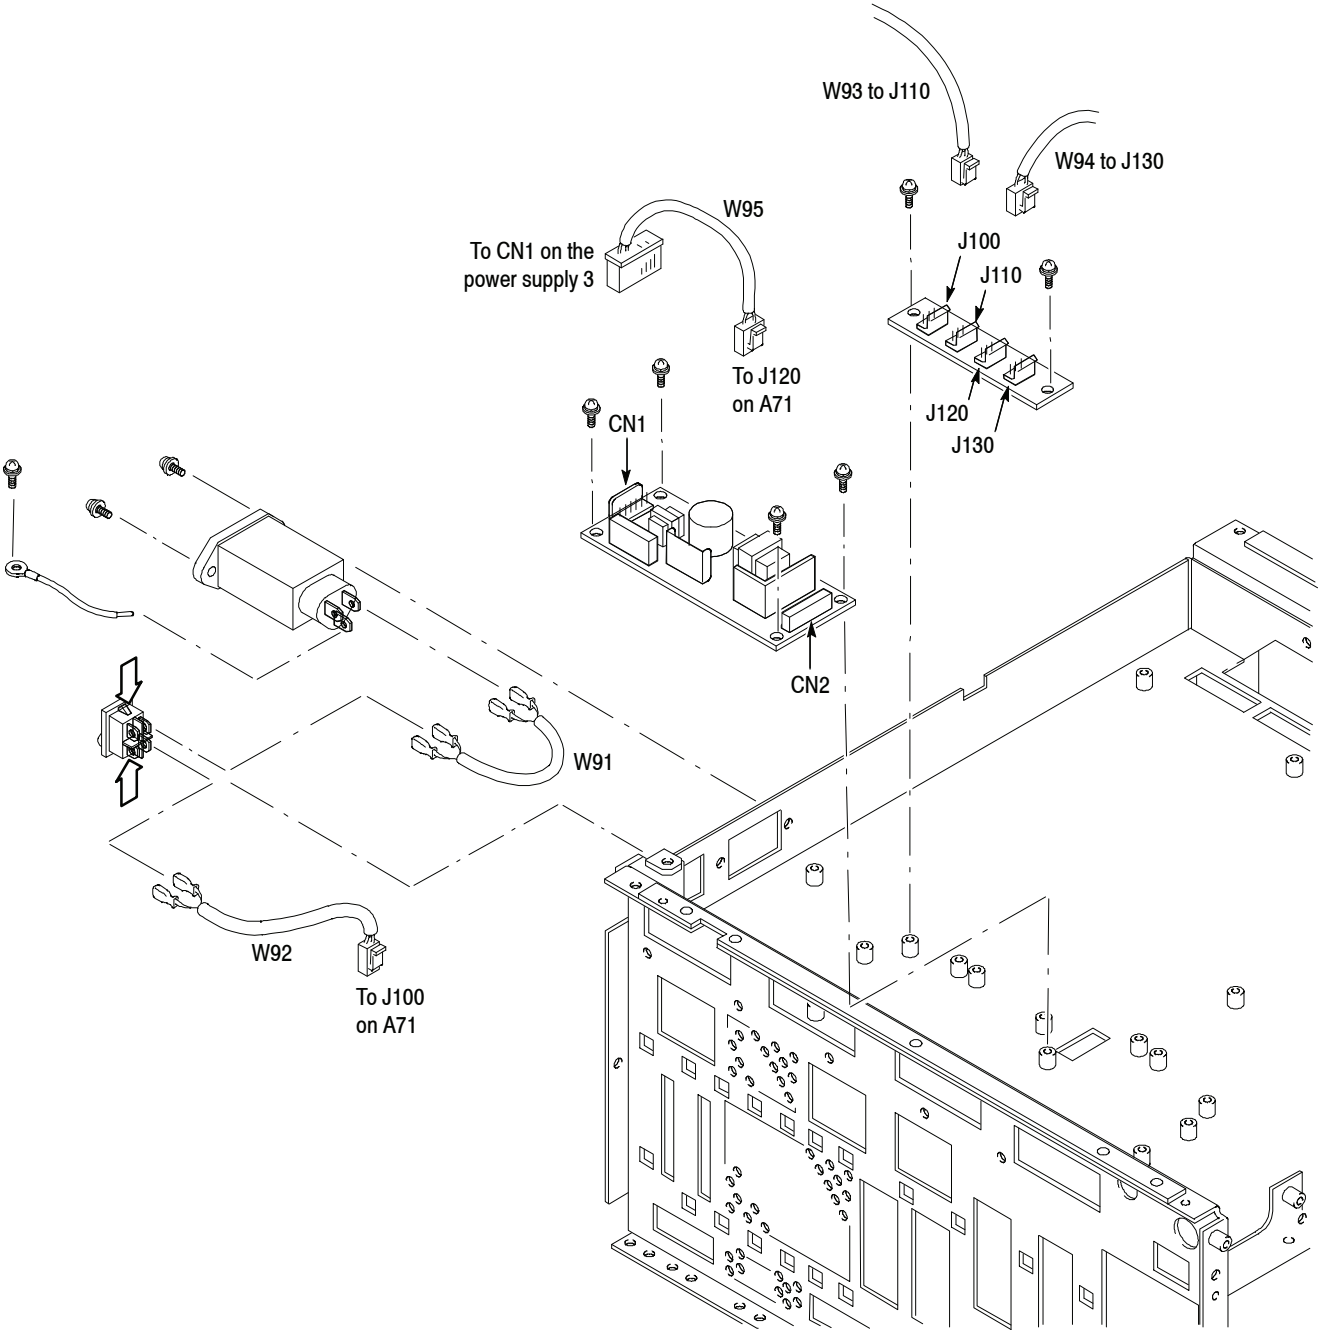

Figure 5-22: Power supply modules removal
3. *Remove the power supply 1:* See Figure 5-22. Also see Figure 5-36 (RSA3303B) or 5-37 (RSA3308B) for cable interconnection.
4. *Remove the power supply 2:* See Figure 5-22. Also see Figure 5-36 (RSA3303B) or 5-37 (RSA3308B) for cable interconnection.
3. *Remove the A71 AC power board:* See Figure 5-22. Also see Figure 5-36 (RSA3303B) or 5-37 (RSA3308B) for cable interconnection.
3. *Remove the power supply 3:* See Figure 5-22. Also see Figure 5-36 (RSA3303B) or 5-37 (RSA3308B) for cable interconnection.
3. *Remove the line filter:* See Figure 5-22.
3. *Remove the principal power switch:* See Figure 5-22.